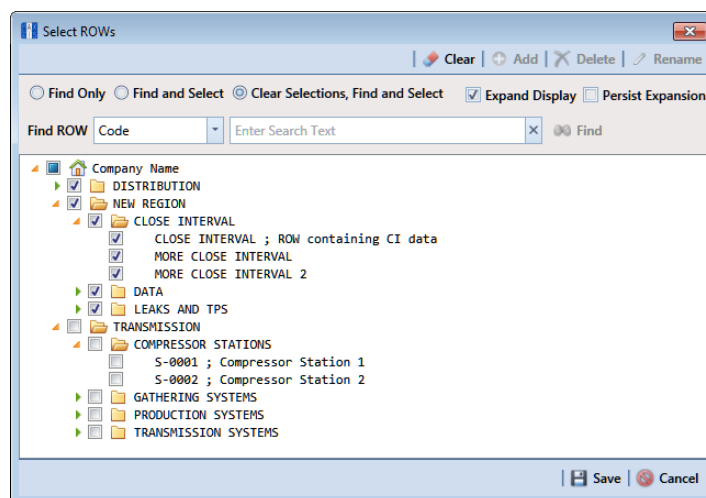

Figure 16-38. Select ROWs
- 1 Select one or more pipeline segments in the *Select ROWs* window (Figure 16-38). Choose pipeline segment(s) with facilities you want to include in the report. Click **Save** to close the window.